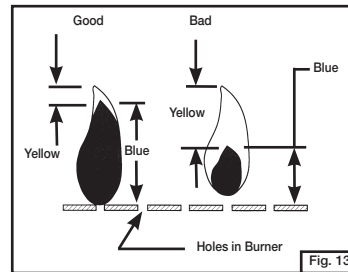

Fig. 13
- A good flame should be blue with minimal yellow tip. Some yellow tips on flames are acceptable as long as no carbon or soot deposits appear. (Fig. 13)